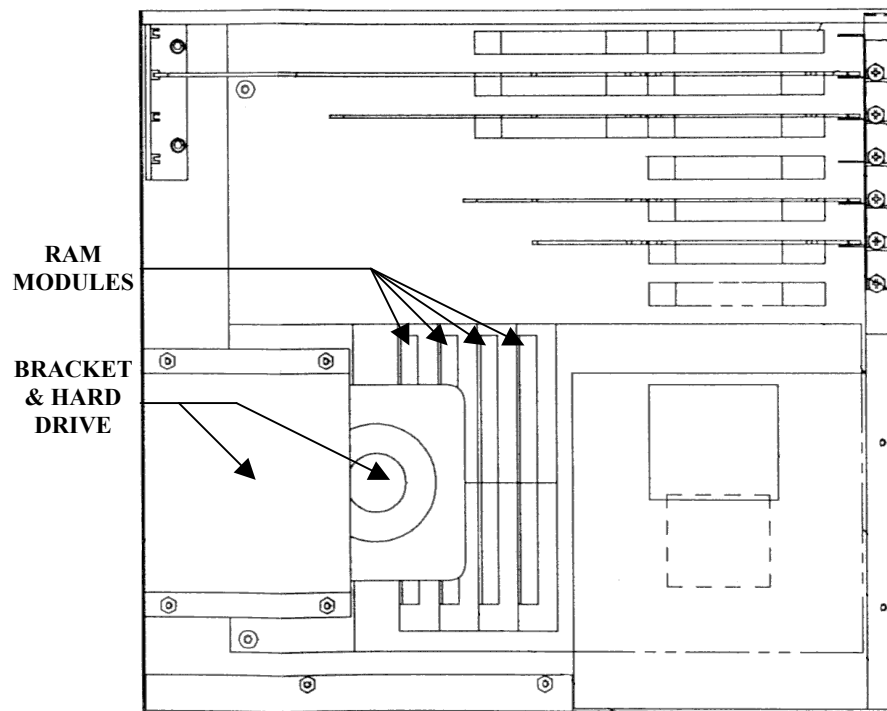

FIGURE 1. WPU Component Location Identification
3. Locate the hard drive and bracket assembly. Refer to Figure 1.